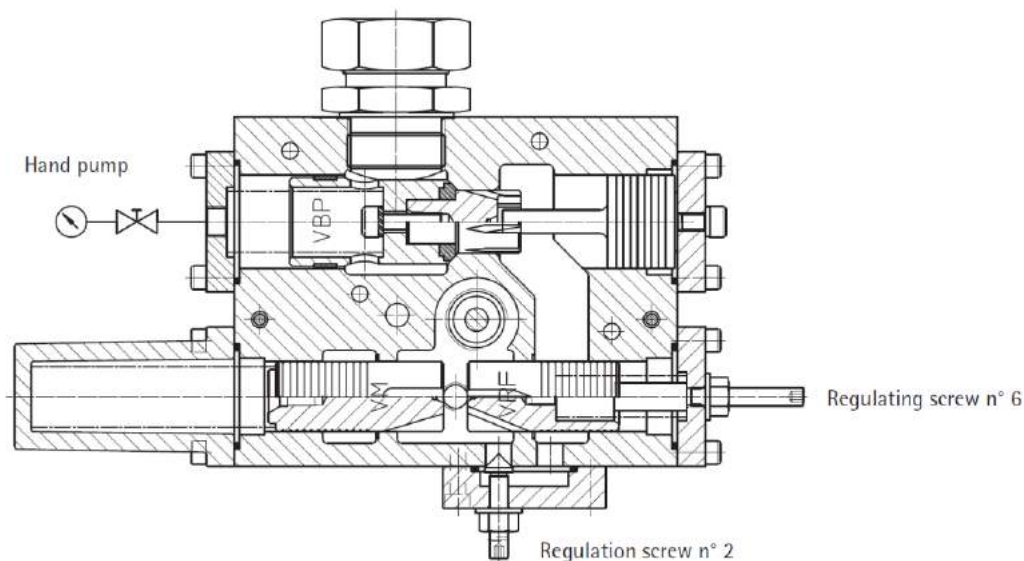

Figure 49 – NL valve section
- Remove the cap laying near the hand pump. Check that piston VM of the max pressure valve moves free and is not blocked by dirt (see Figure 49).
- Be sure that piston VRF is not blocked: remove the flange supporting the screw n°6 (see Figure 49).